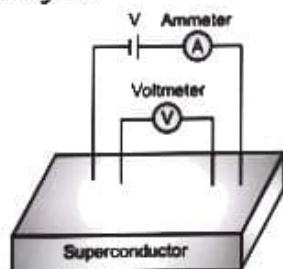

Fig. 5.8
- As it is not possible to test experimentally whether the resistance is zero, the specimen is connected in a circuit as shown in Fig. 5.8.